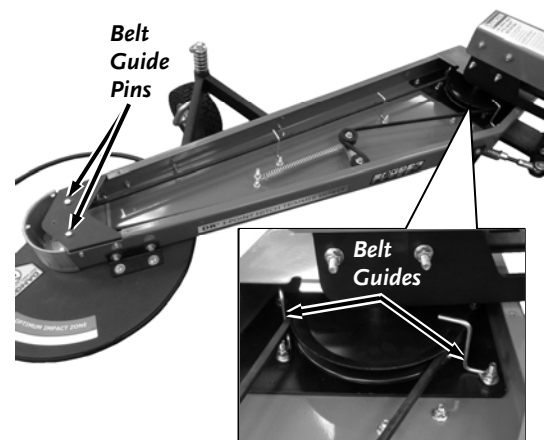

Figure 37
3. Remove the two Belt Guide Pins at the head of the Trimmer using two 9/16" Wrenches (**Figure 37**).